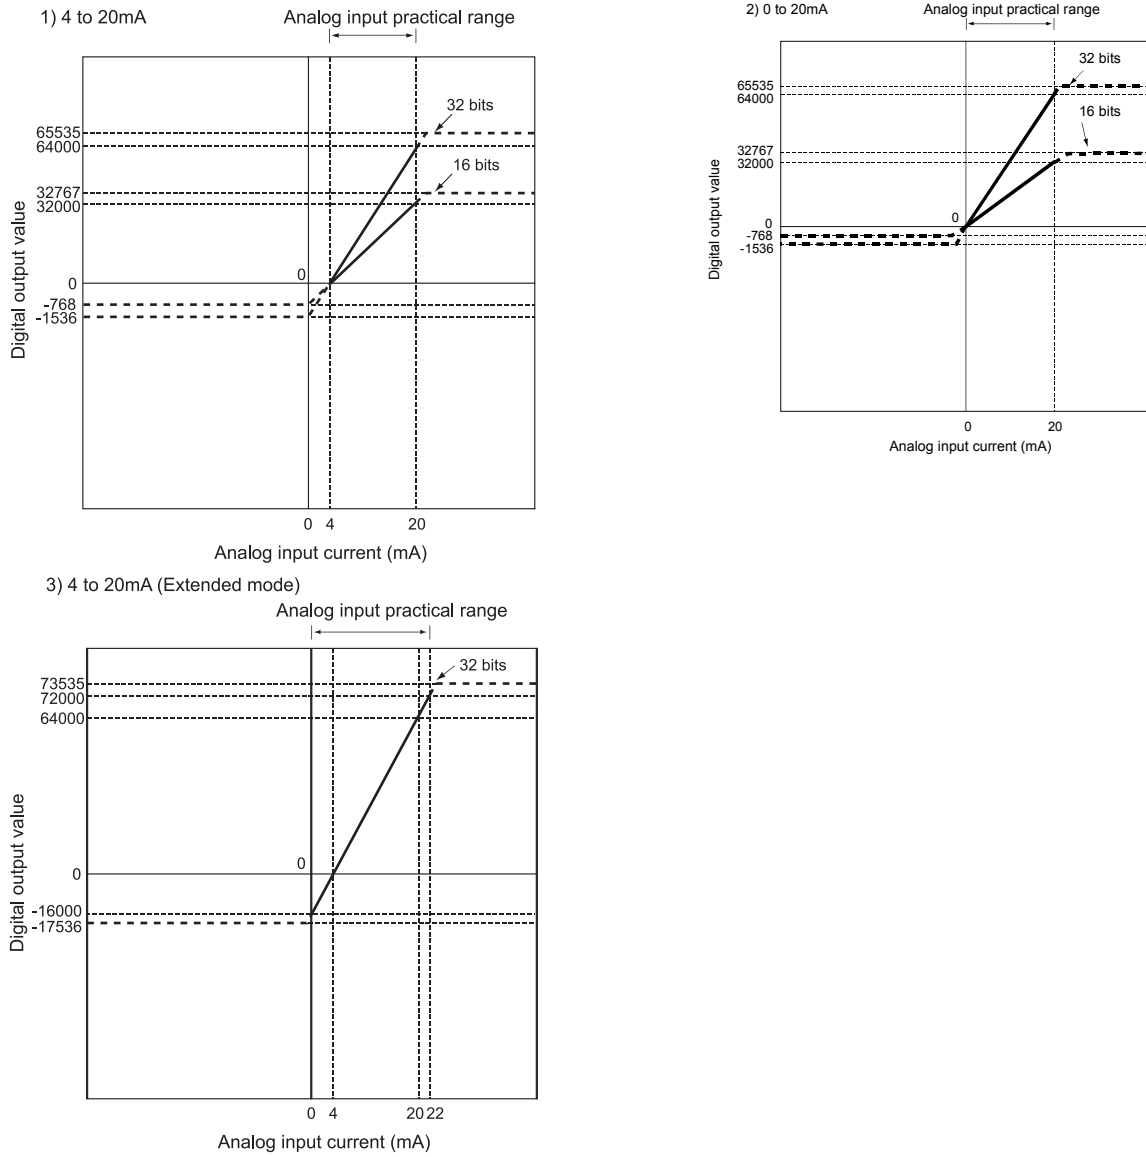

Fig. 3.2 Current input characteristic of Q64AD-GH
Fig. 3.2 shows a graph of the current input characteristic.
(1) Set within the analog input range and digital output range for each input range. If these ranges are exceeded, the resolution and accuracy may not fall within the performance specifications. (Avoid the use of dotted areas of Fig. 3.2.)
(2) Do not input an analog input current of -30mA or less, or +30mA or more. Doing so can cause the breakdown of the elements.
(3) Set the offset/gain values for the user setting range within a range in which the following conditions are satisfied.